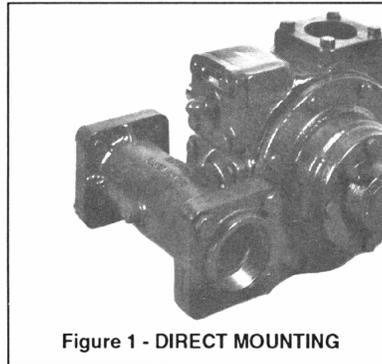

Figure 1 - DIRECT MOUNTING
For direct mounting on Blackmer 2, 2.5 and 3-inch truck pump models, the strainer takes the place of the intake pipe flange and bolts directly to the **INTAKE** port of the pump. To mount the strainer directly on the Blackmer pump, use four (4) strainer capscrews (Ref. No. 44) and flange gasket (Ref. No. 43A). See Figure 1.